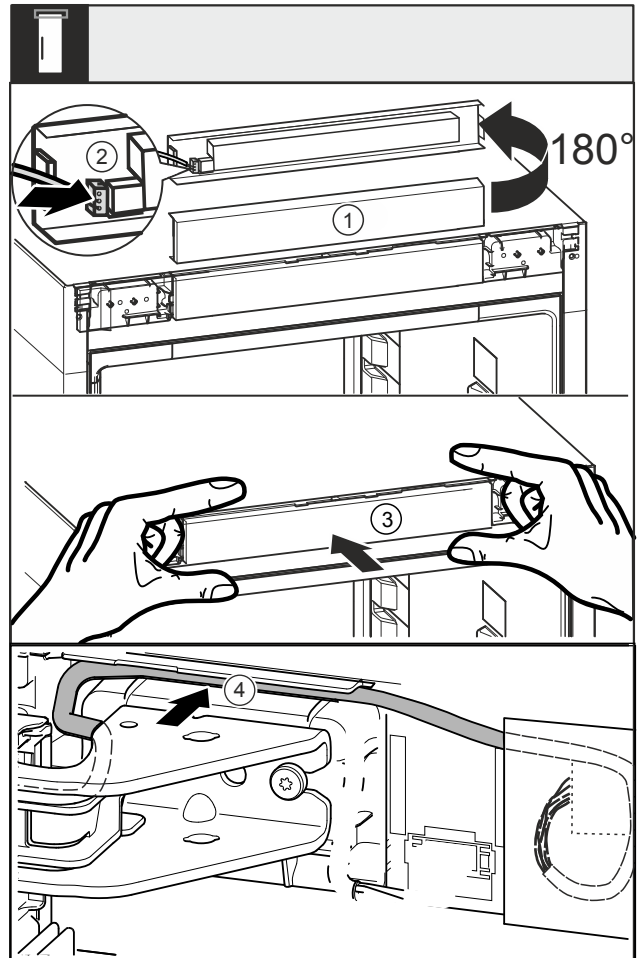

Fig. 40
- ▶ Turn the faceplate Fig. 40 (1) upward by 180°.
- ▶ Snap the plug Fig. 40 (2) into place on the control unit panel.
- ▶ Snap the faceplate Fig. 40 (3) back onto the appliance.
- ▶ Carefully insert the cable into the guide Fig. 40 (4) above the top swap bearing block.